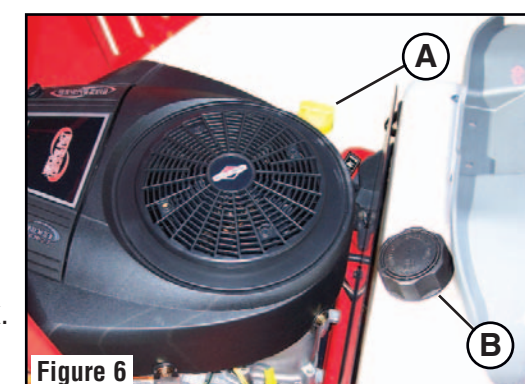

Figure 6
- Remove the oil fill cap (A, Figure 6). Wipe the dipstick, replace the cap, then remove and check the oil level. The oil level should be between the 'Full' and 'Add' marks on the dipstick.
- Remove the fuel cap (B, Figure 6).